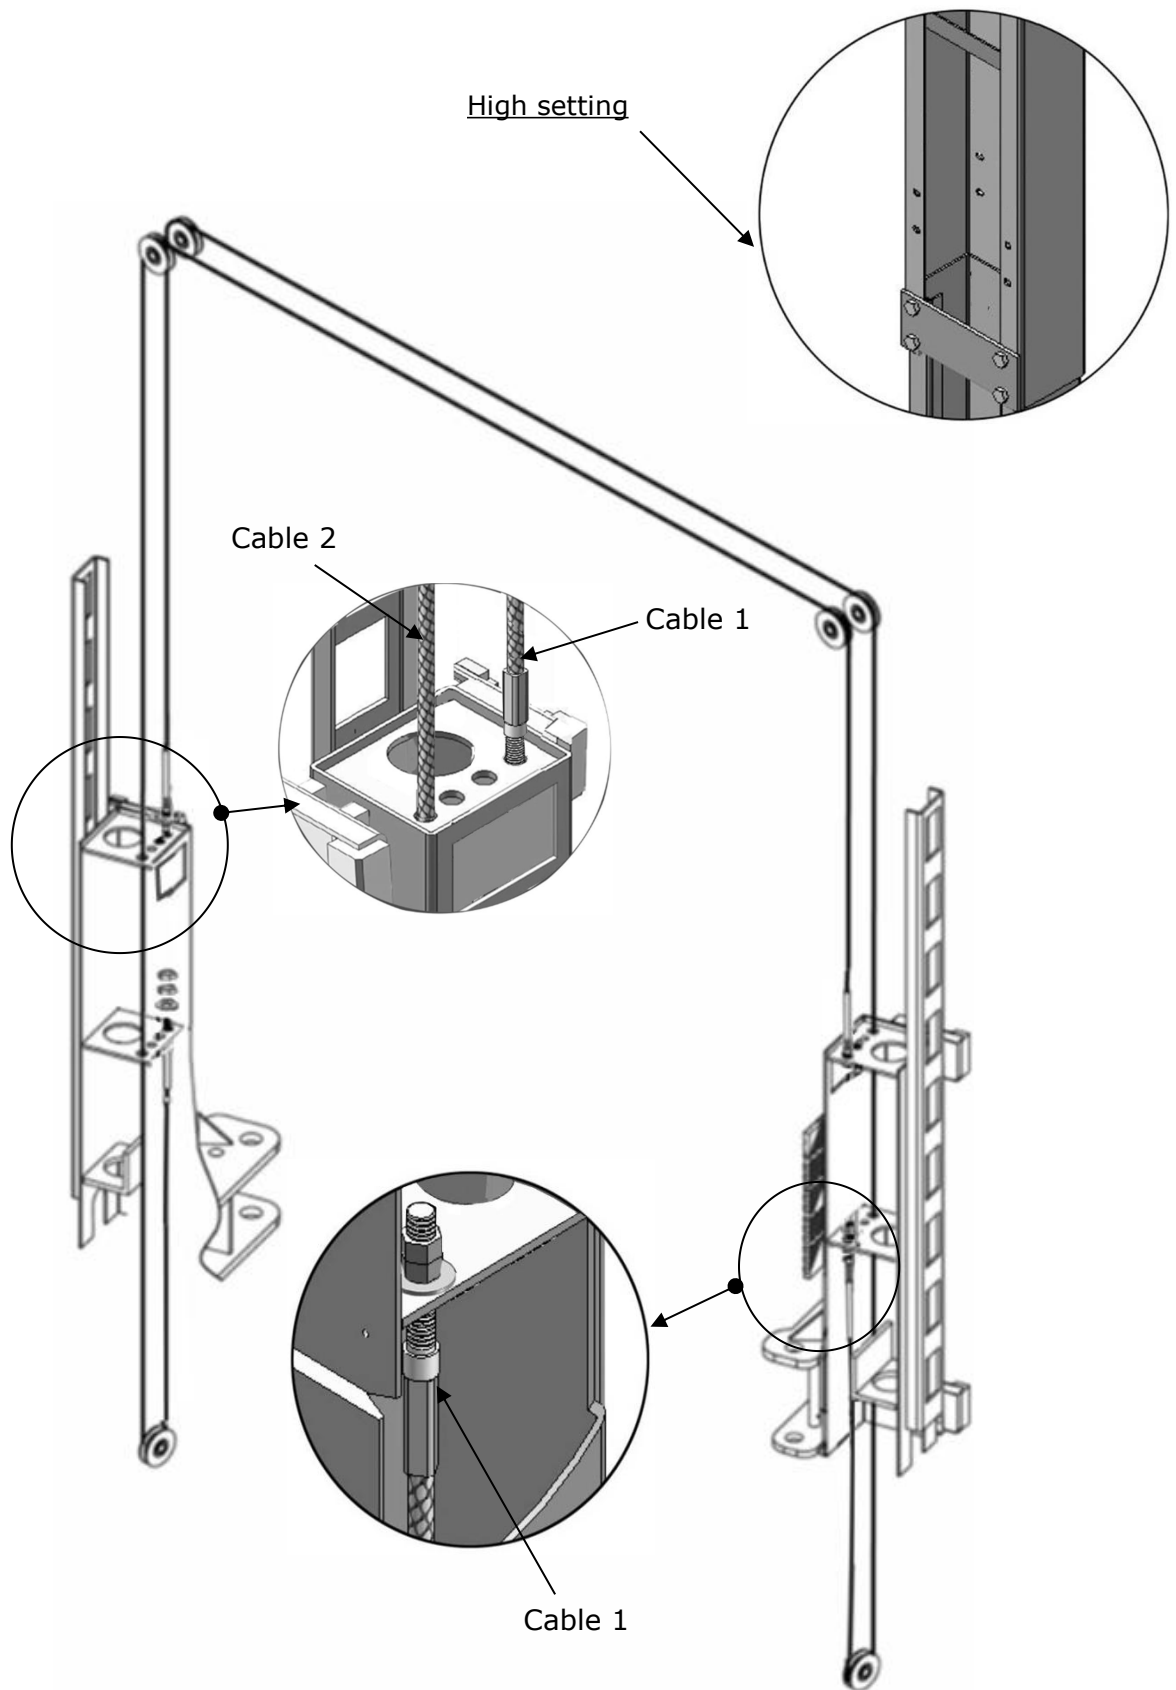

Fig. 29
1.2 Connecting cable for high setting (See Fig. 29)